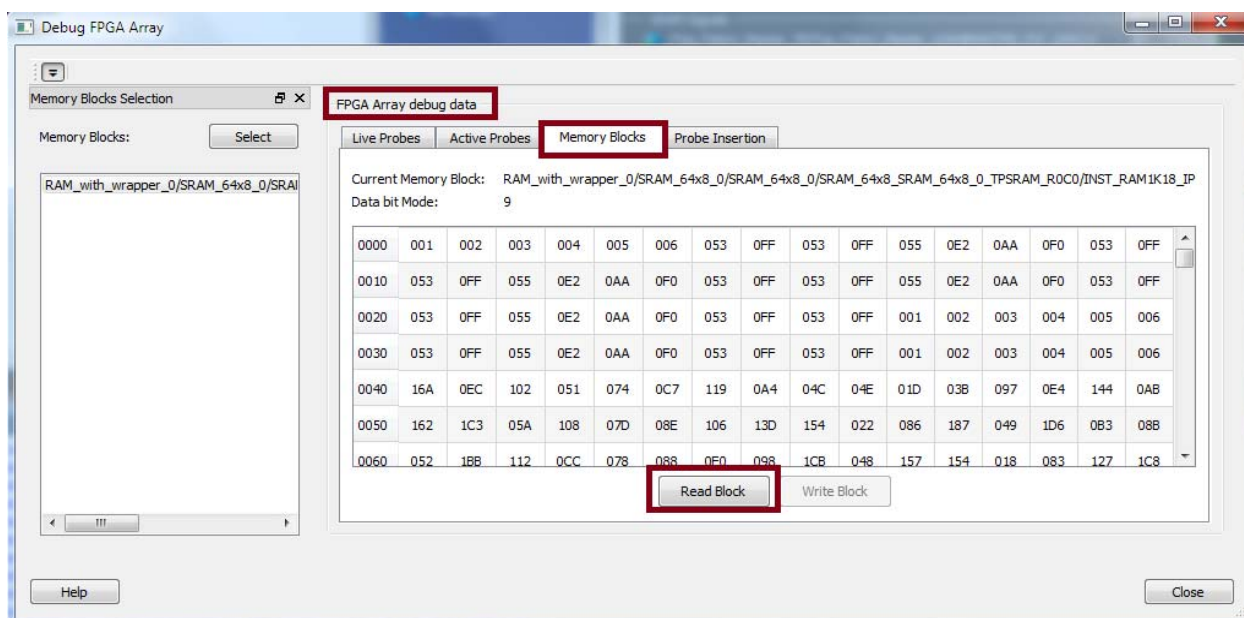

Figure 22 • SRAM Content Read from the Device
9. Select the **Memory Blocks** tab under **FPGA Array Debug Data** as shown in Figure 22 on page 23.
- j. Click **Read Block** to read the SRAM content in real-time from the device. The content of the SRAM is displayed as shown in Figure 22. This is the same eNVM data, as shown in Figure 2 on page 5, that is used to initialize the SRAM.